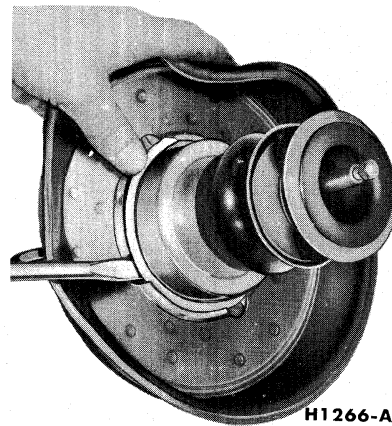

FIG. 25—Bellows Removal or Installation
9. Remove the large bellows retainer ring and the bellows assembly from the diaphragm and valve assembly (Fig. 25).
13. Position the bellows assembly over the push rod against the front side of the diaphragm. Secure the bellows to the diaphragm by installing the retainer ring (Fig. 25). **Make sure that the retainer ring is fully seated.**